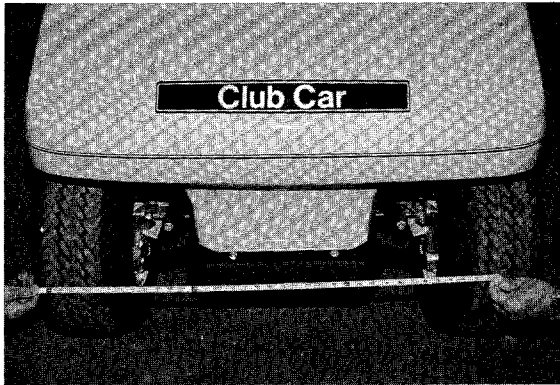

Figure 12-18
2. Measure the distance between a known point on each front tire (middle tire rib, etc.) at exactly the same height, (center of wheel) both on front and rear of tires (Figure 12-18).